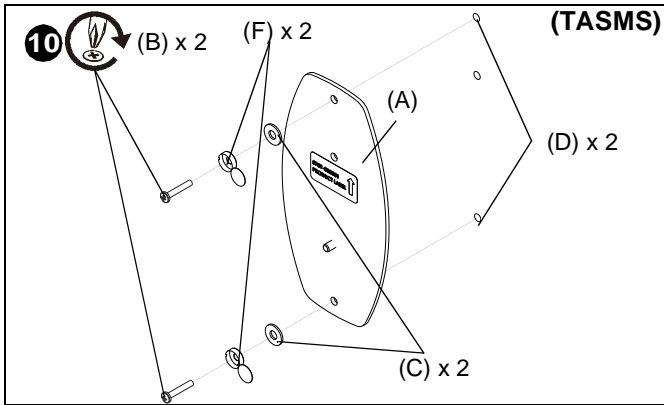
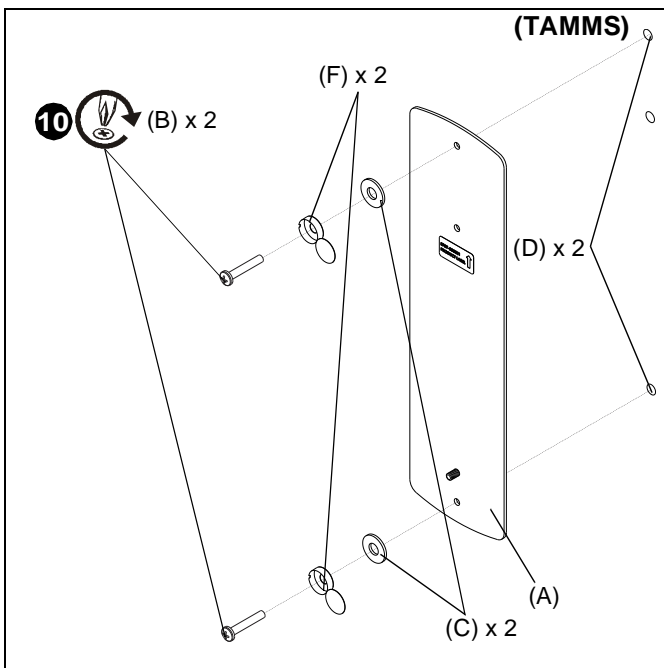

Figure 6
Figure 7
9. Place adapter plate (A) over anchors and align mounting holes on mount with holes in anchors. (See Figure 6) or (See Figure 7)
10. Use two 1/4-20 x 1 3/4" Phillips pan machine screws (B), two screw caps (F) and two 1/4" washers (C) to secure adapter plate (A) to anchors (D) using top and bottom mounting holes. (See Figure 6) or (See Figure 7)